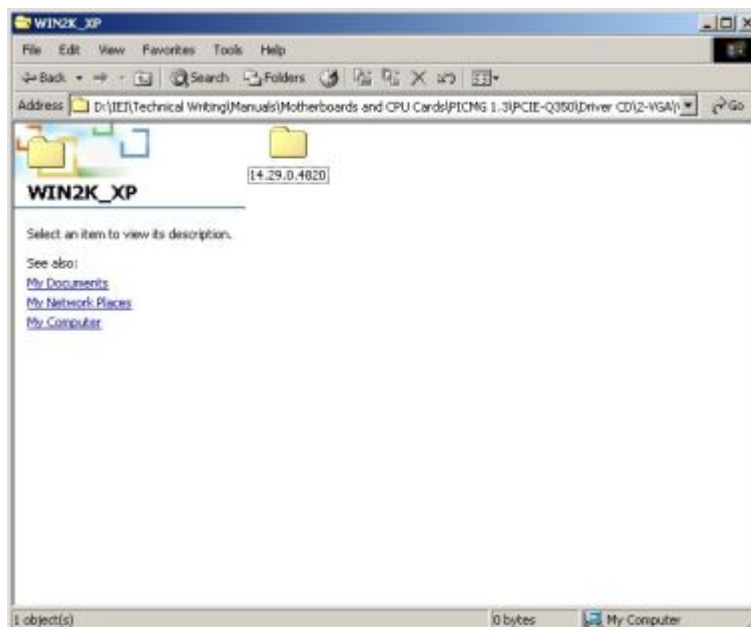

Figure 7-11: Intel® Driver Directory
Step 4: A new window appears. See **Figure 7-11**.
Step 5: Click the directory icon in **Figure 7-11**.